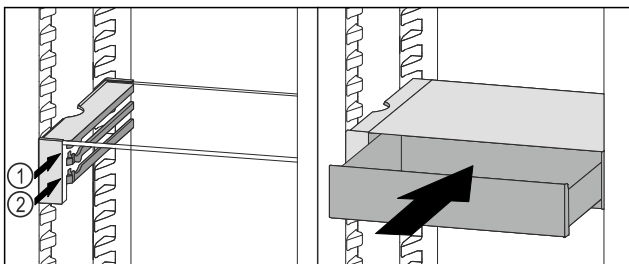

Fig. 119
- ▶ Place the VarioSafe drawer behind the stoppers on desired rib *Fig. 119 (1)* or *Fig. 119 (2)*.